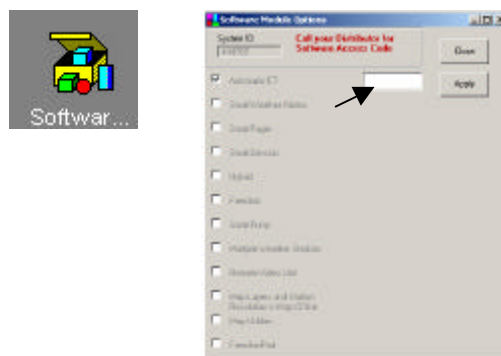

Figure 3 Keycode Dialog Box
3. Enter your keycode by clicking on the **Software Modules Options** button and entering the keycode(s) in the corresponding box (see Figure 3)